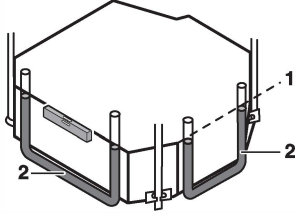

Fig. 9
- (3) Adjust the unit to the right position for installation. (See "4. PREPARATIONS BEFORE INSTALLATION" on page 7.)
(4) Check if the unit is horizontally levelled.
- Check if the unit is levelled at all four corners with a water level or a water-filled vinyl tube as shown in Fig. 9.